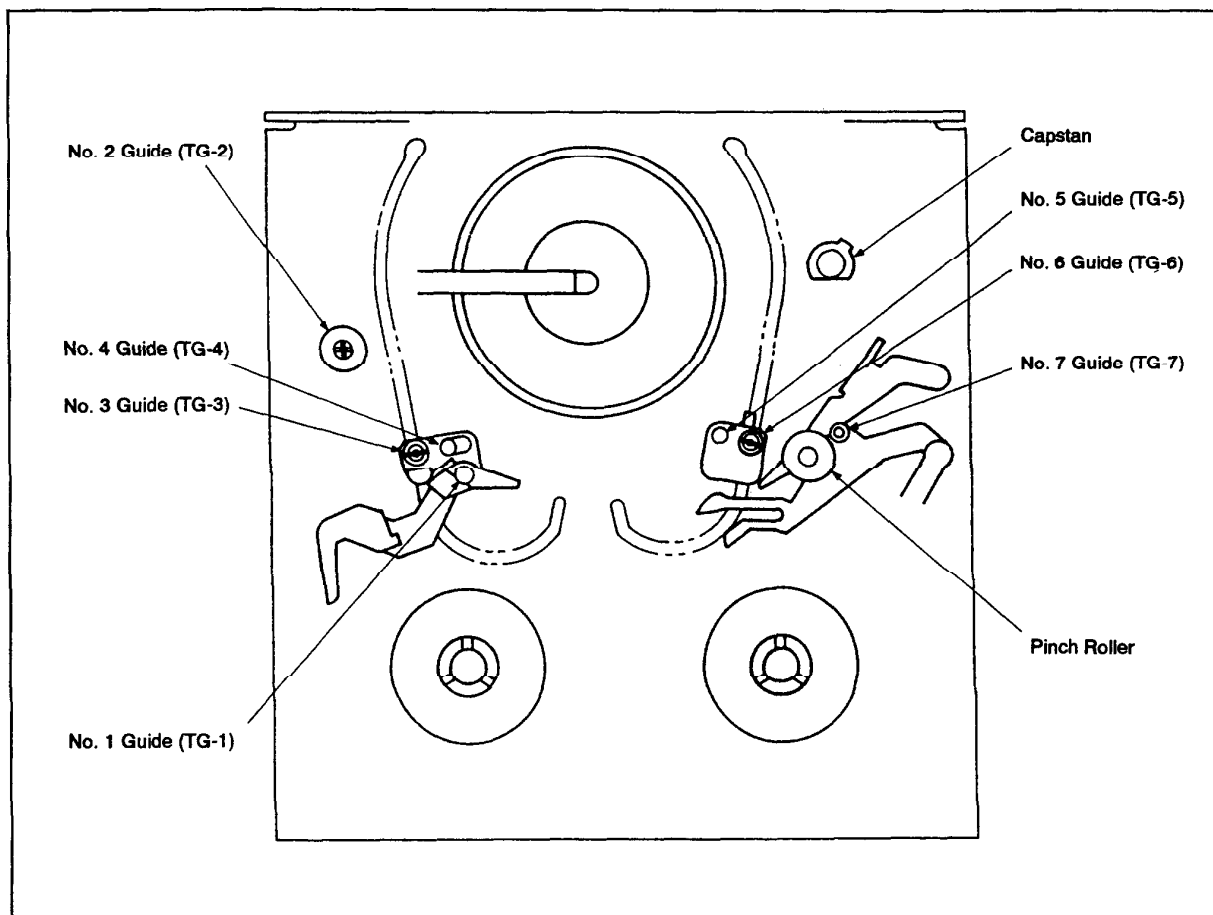

Fig. 2-1.
## 2. PERIODICAL CHECK AND MAINTENANCE (See Fig. 2-1.)
- 1) Set the cassette compartment assembly to the eject state, or remove it. Then clean the tape path (guides No. 1 to 7, capstan shaft, pinch rollers) with a piece of chamois leather moistened in cleaning fluid (See Fig. 2-1).